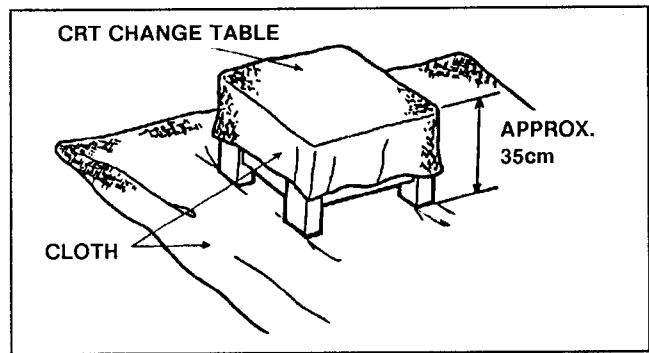

Fig. 4
- 1. Putting the CRT change table on soft cloth, the CRT change table should also be covered with such soft cloth. (shown in Fig. 4)
3] As soon as the clock starts, it will say "THANK YOU!!". (Fig. 4)
(Fig. 4)